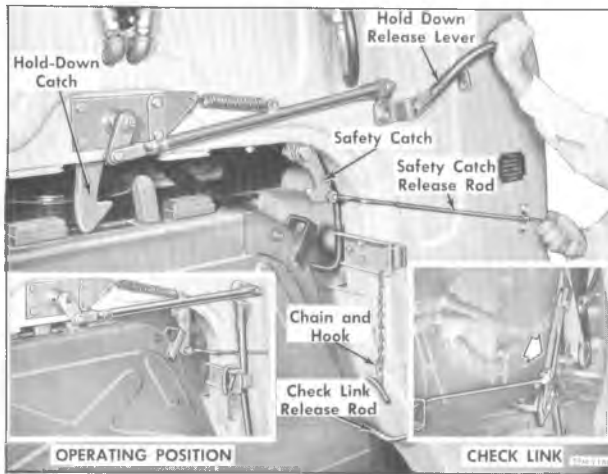

Figure 2—Releasing Cab Hold-Down Mechanism
TO RAISE CAB (Fig. 2)
3. While holding safety catch release rod to the right, pull hold-down release lever out and upward until hold-down catch becomes disengaged and rear of cab raises from mount (fig. 2). Tilt the cab completely forward until check link at right front mounting locks cab safely in full-tilt position.
TO LOWER CAB (Fig. 2)
1. Release check link at right front mounting (see inset, fig. 2) by pulling rearward on link release rod, then pull cab back to operating position.
A check link is provided near the right front mounting (see inset, fig. 2) which limits the distance cab can be tilted forward and automatically locks the cab in the full-tilt position. Check link must be released before cab can be returned to normal operating position.